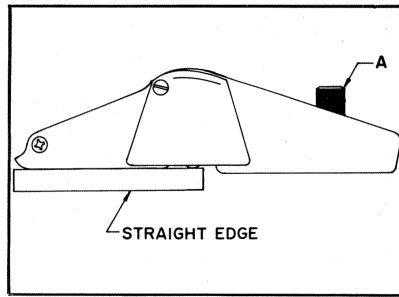

Fig. 3
3. Lay straight edge on front section of base so it projects over the abrasive (see Fig. 3).
4. Turn adjustment knob (A) Fig. 3 to bring front section of base flush with abrasive as shown.